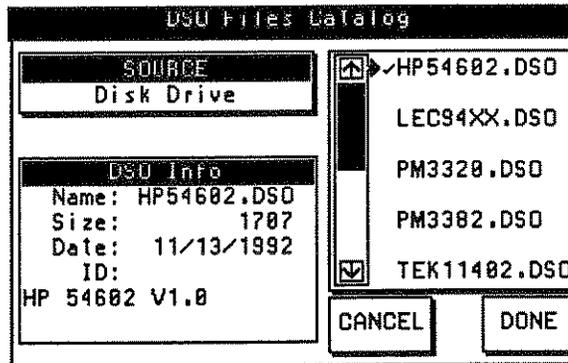

Figure F-4. DSO Selected
- 5a. Load a DSO Driver Select DRIVER from the Source block. The DSO Files Catalog, figure F-4, screen appears. An error message appears when you select Begin Upload but failed to select a driver.